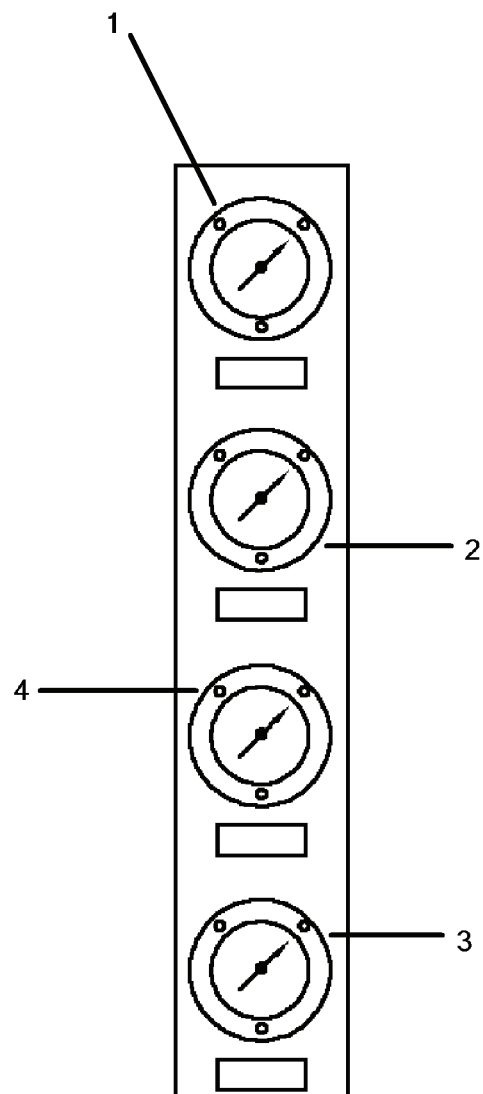

Figure 2-14. Gauge Panel.
## 2-21. Gauge Panel. (Figure 2-14)
The procedures are the same for removal and replacement of the No. 1 Distillate Pump Discharge Pressure (1), No. 1 Jacket Water Pump Discharge Pressure (2), No. 2 Distillate Pump Discharge Pressure (4), and No. 2 Jacket Water Pump Discharge Pressure (3) gauges from the gauge panel (Figure 2-14).